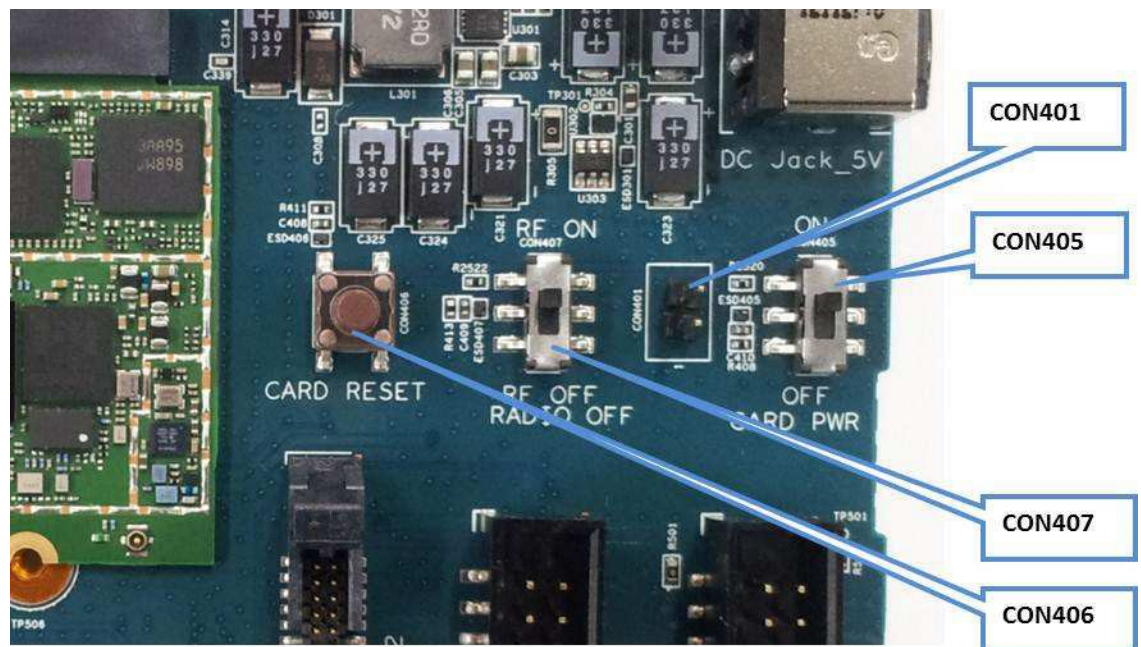

Figure 11 ON/OFF/RESET for Carrier board
5. Check the dip-switches to turn on modem board (see Figure 11) and could be use RESET button to reset modem board.